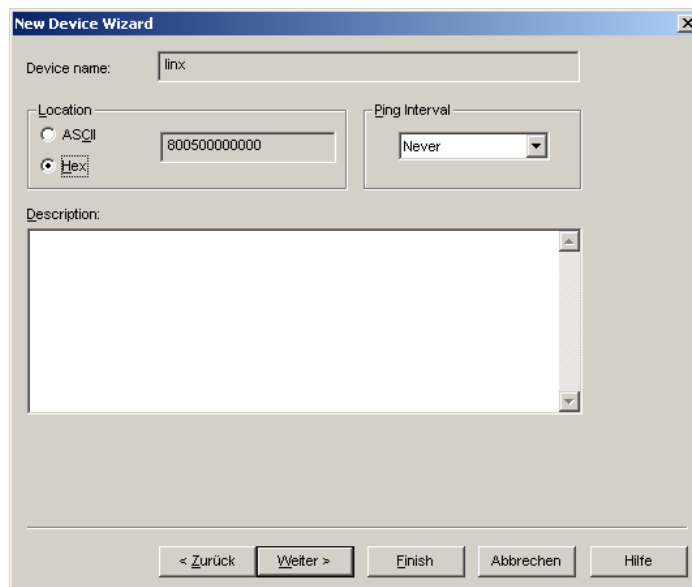

Figure 91: Leave defaults for Location.
5. In the following dialog shown in Figure 91 appears. Click **Next**.